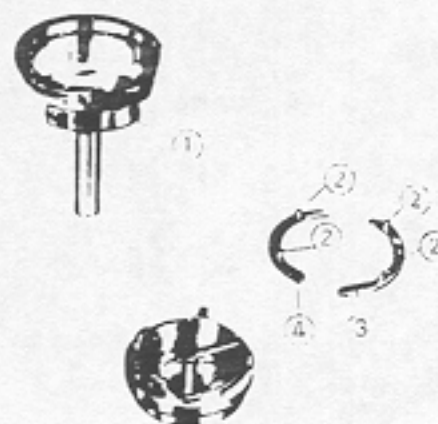

Fig. 14
The needle guard (Fig. 14 ①), which is attached to the side of the sewing hook, should be sprung until it prevents the needle from striking the hook in case the needle is deflected toward the hook.
Remove the 4 hook small screws (Fig. 14 (2)) and remove the 2 hook gibs (Fig. 14 (3) (4)) as shown in Fig. 14 and remove the bobbin case.